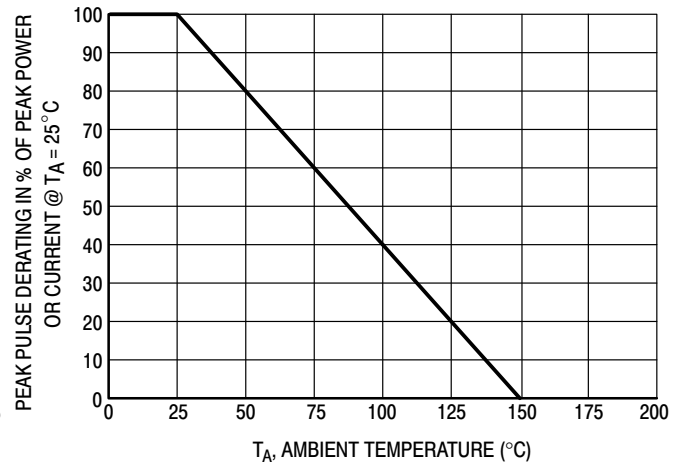
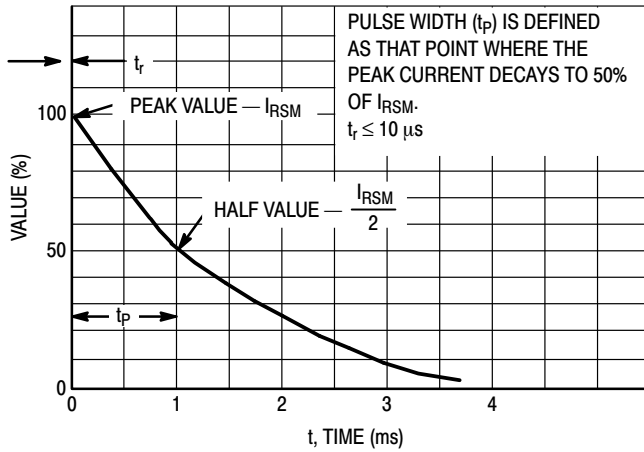
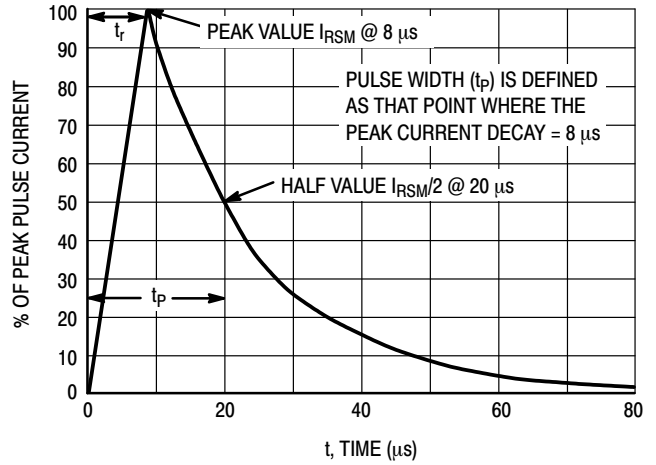

Figure 4. Pulse Derating Curve
Figure 5. $10 \times 1000 \mu\text{s}$ Pulse Waveform
Figure 6. $8 \times 20 \mu\text{s}$ Pulse Waveform
- Peak Power – Min. 24 W @ 1.0 ms (Unidirectional), per Figure 5 Waveform
- Peak Power – Min. 150 W @ 20 μ s (Unidirectional), per Figure 6 Waveform
1. Non-repetitive current pulse per Figure 5 and derate above $T_A = 25^\circ\text{C}$ per Figure 4.
2. Non-repetitive current pulse per Figure 6 and derate above $T_A = 25^\circ\text{C}$ per Figure 4.
8. Surge current waveform per Figure 5 and derate per Figure 4.